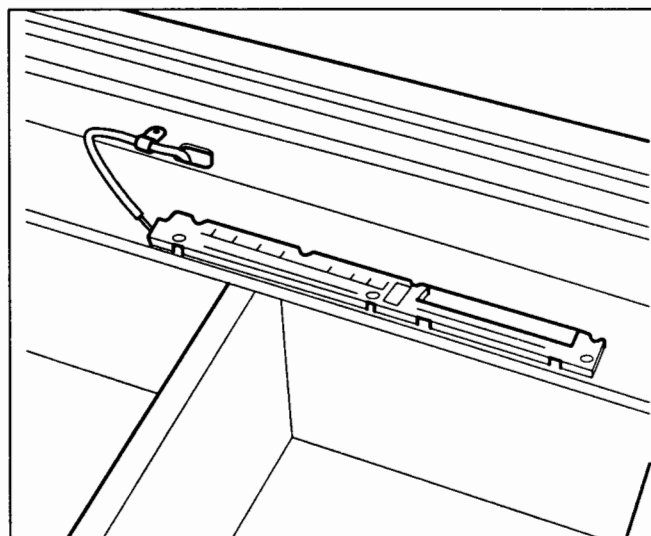

**Figure 2-10. Control Panel Electrical Supply**
5. Disconnect electrical supply at the top of upper control panel assembly (Figure 2-10).